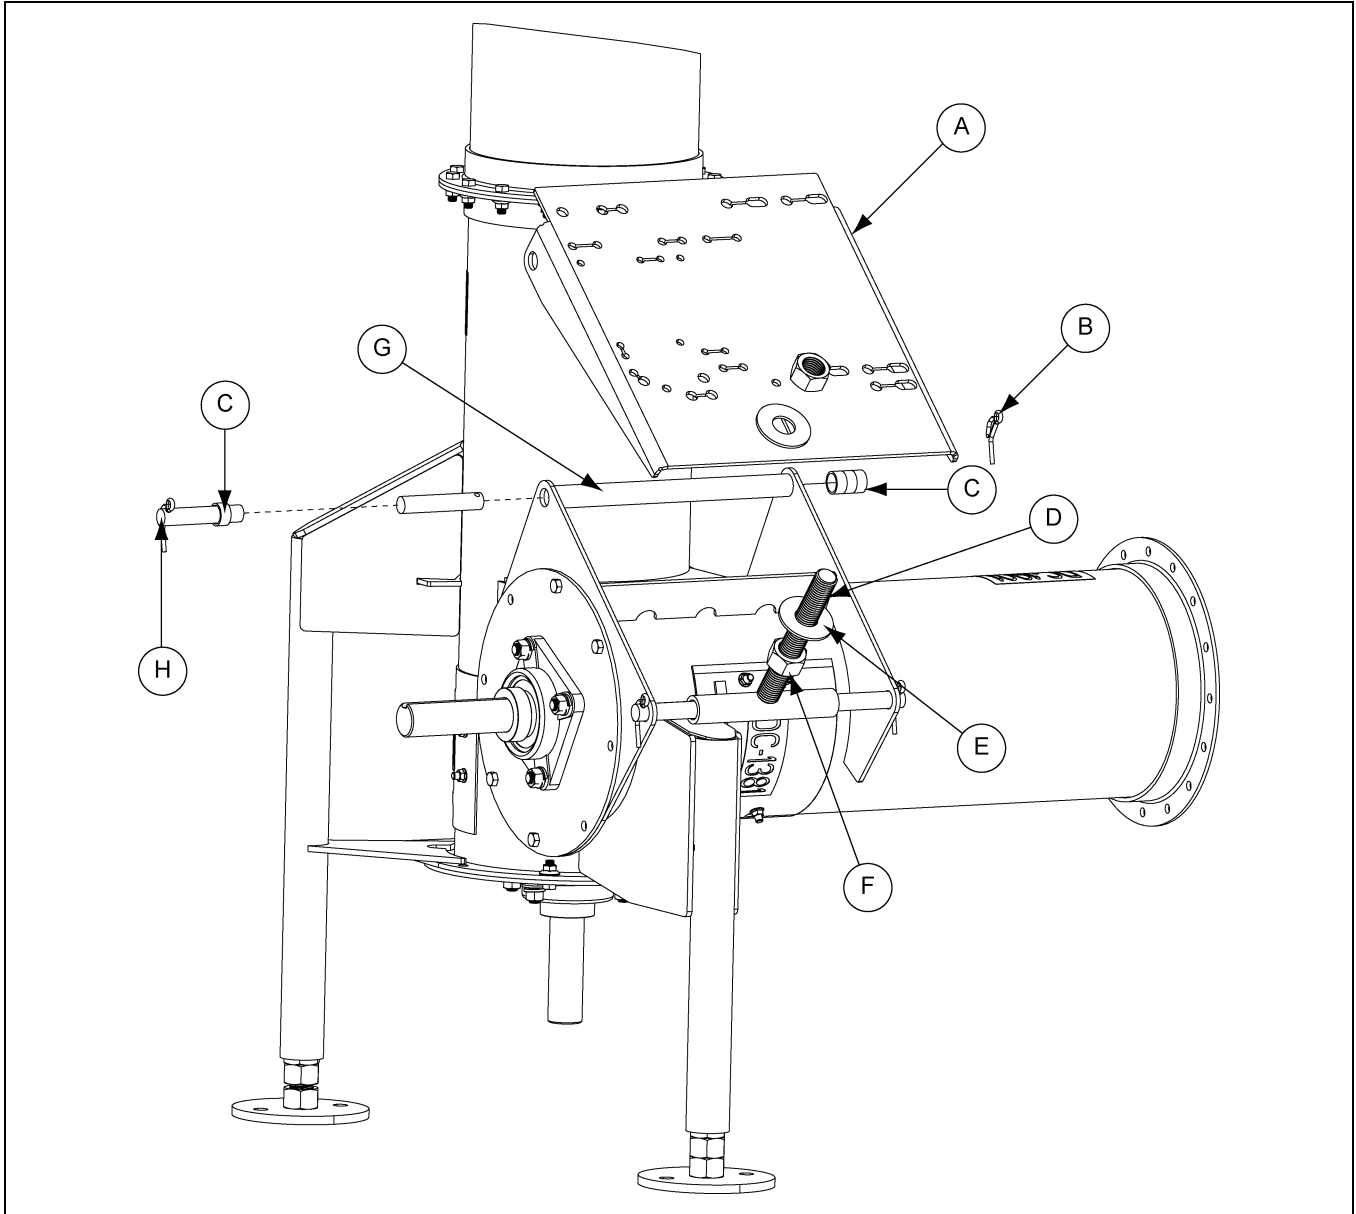
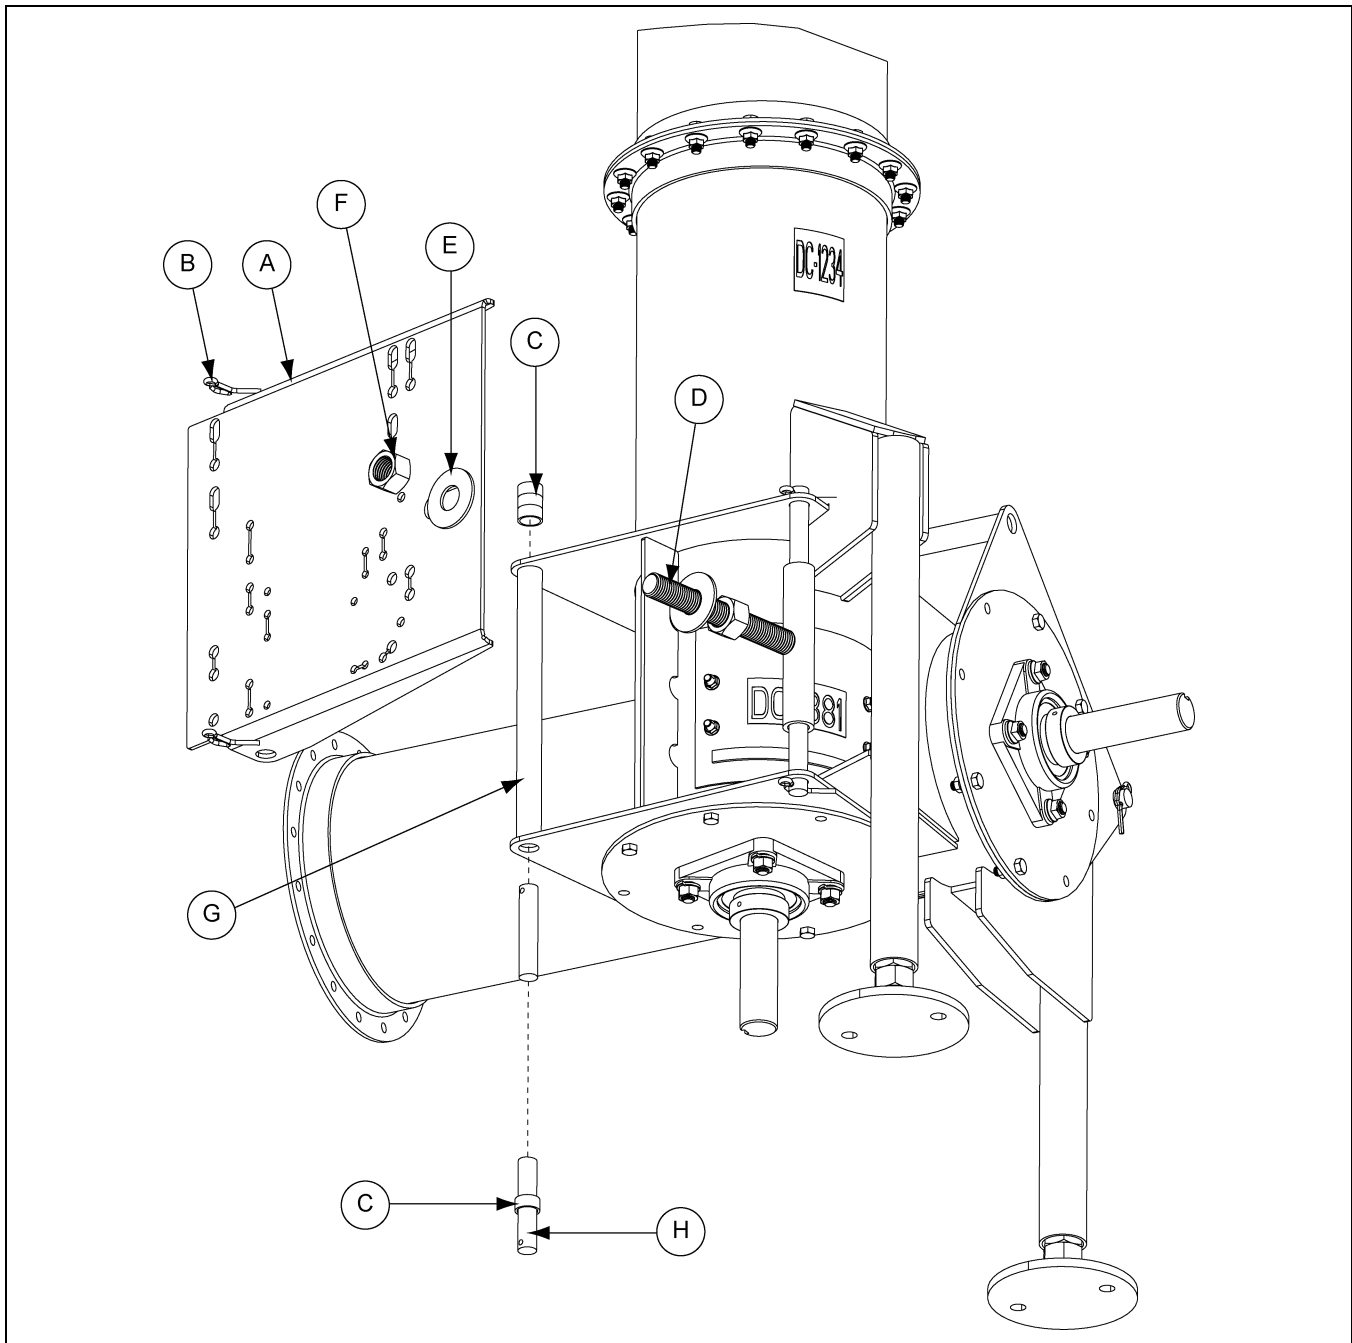

Figure 3H
Figure 3I
- A. Thread one of the *motor mount adjustment nuts* (F) and one of the *motor mount adjustment washers* (E) approximately three-quarters (3/4) of the way down the *motor mount adjuster's threaded rod* (D).
- B. Once the nut and washer are in place, slip the *motor mount plate* (A) over the adjuster and align the pivot holes with the pivot tube (G). (See *Figure 3H below* and *Figure 3I on Page 21.*)